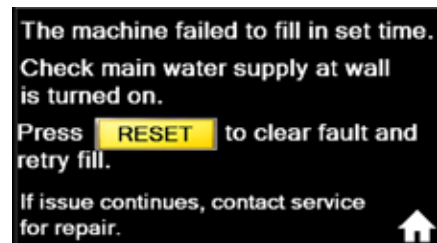

Fig. 99c - Follow instructions on screen
2. Press the  icon and an instruction screen appears. Follow the instructions and press RESET, (Fig. 99c).